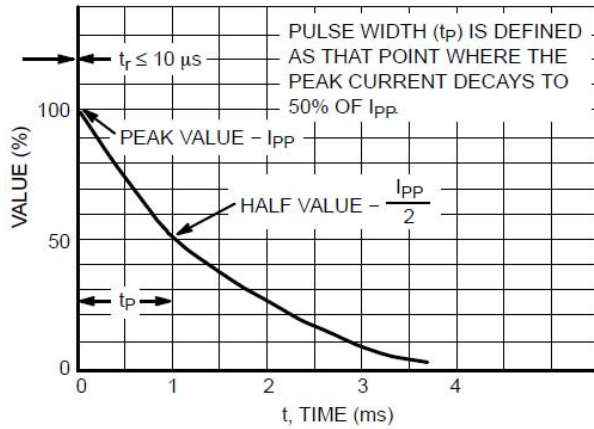

Figure 6. Pulse Waveform
- ◇ Peak power 24 or Watts @ 1.0ms (unidirectional) per Figure 6 Waveform